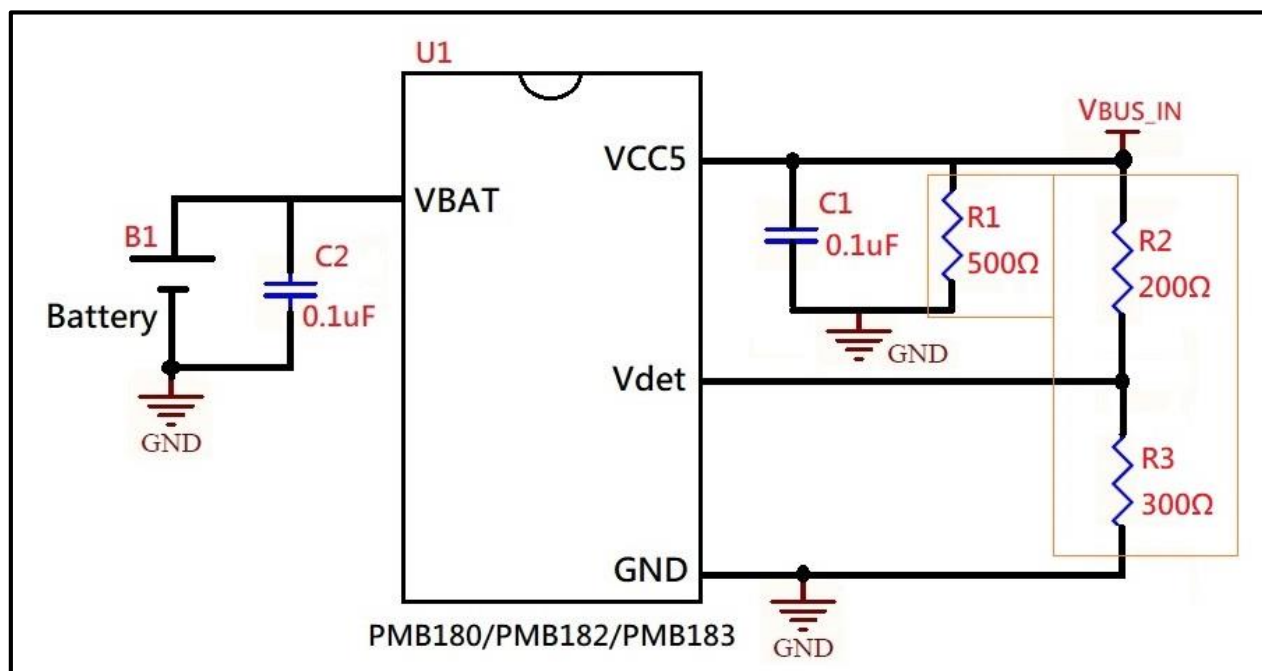

Figure 1: Charging Circuit Connection Diagram
(1) To prevent reverse flow of Vbat voltage to the Vcc pin and avoid leakage current, the Vcc pin must not be left floating. **The VCC5 pin must be connected to at least a 0.1 $\mu$ F capacitor and a load resistor  $\leq 500\Omega$ .** If an external resistor is used for charging voltage division detection, the voltage divider impedance must also be  $\leq 500\Omega$ . Refer to Figure 1.